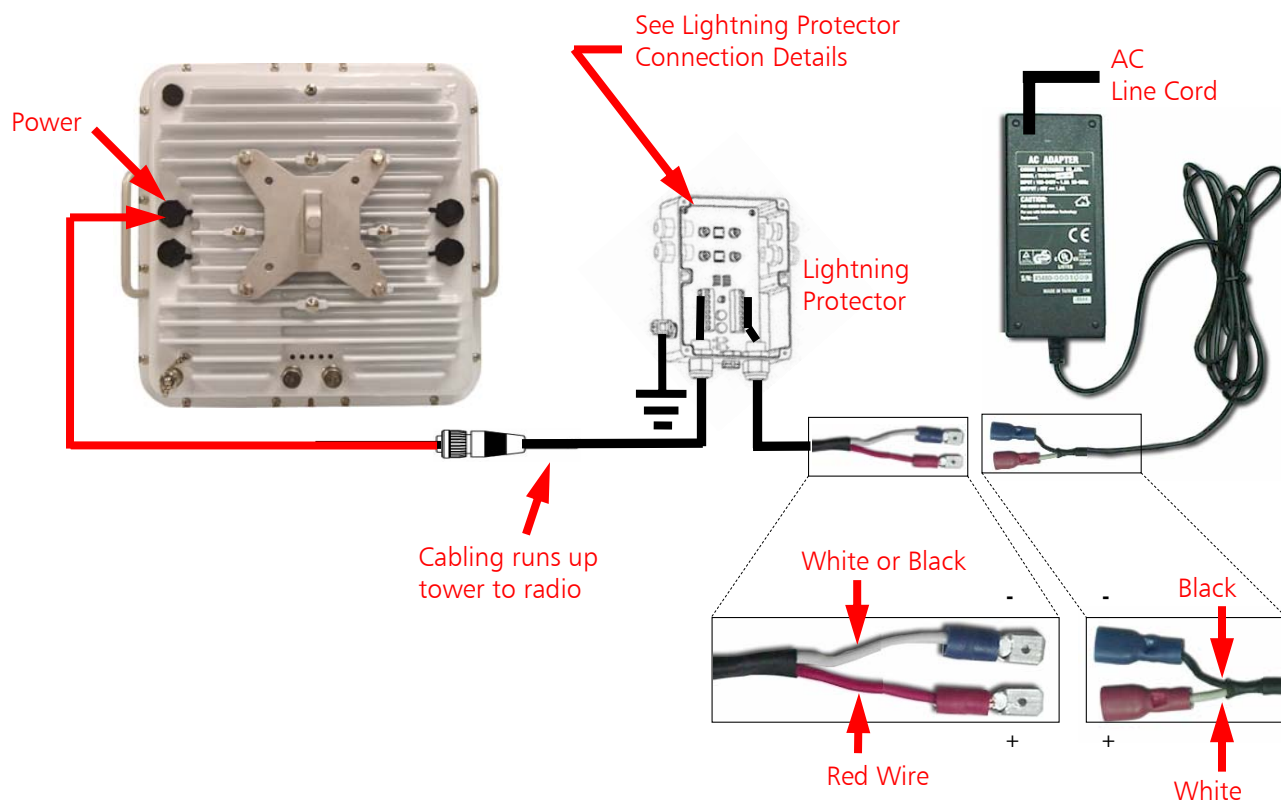

Figure 6 – Connecting Power to the Radio
Step 1 – The weather-proof connector connects to the radio. The un-terminated end must be connected to the AC Adapter (see **Figure 6**).
Step 5 – Connect the assembled power cable to the power input (refer to **Figure 6**).